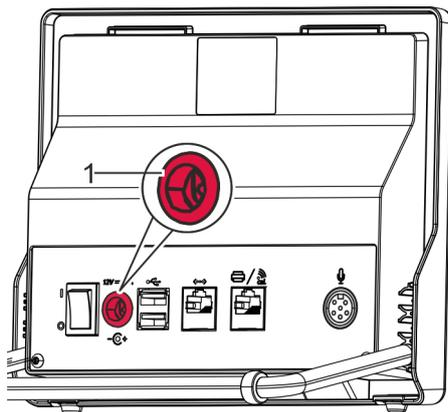

Fig. 10: Mains connection
2. ➤ Insert the power supply unit adapter into the mains connection (Fig. 10/1).